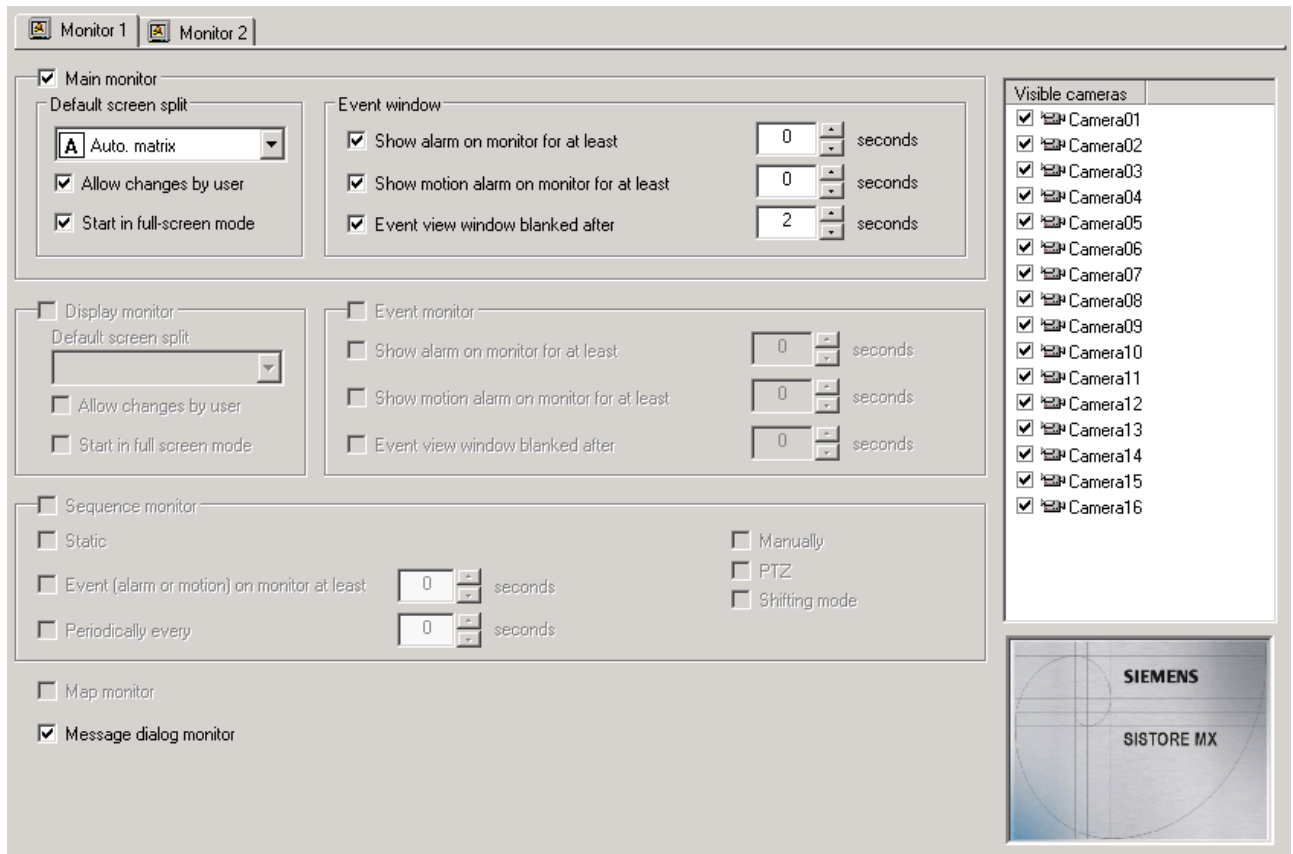

Fig. 120 SISTORE MX – Configuration of multi-monitor mode with 2 monitors
7. Select the cameras whose live images are to be displayed on the main monitor by marking the corresponding checkboxes in the **Visible cameras** list (see Fig. 120).
6. Select the cameras whose live images are to be displayed on the display monitor by marking the corresponding checkboxes in the **Visible cameras** list (see Fig. 120).
4. Select the cameras whose event images are to be displayed on the event monitor by marking the corresponding checkboxes in the **Visible cameras** list (see Fig. 120).